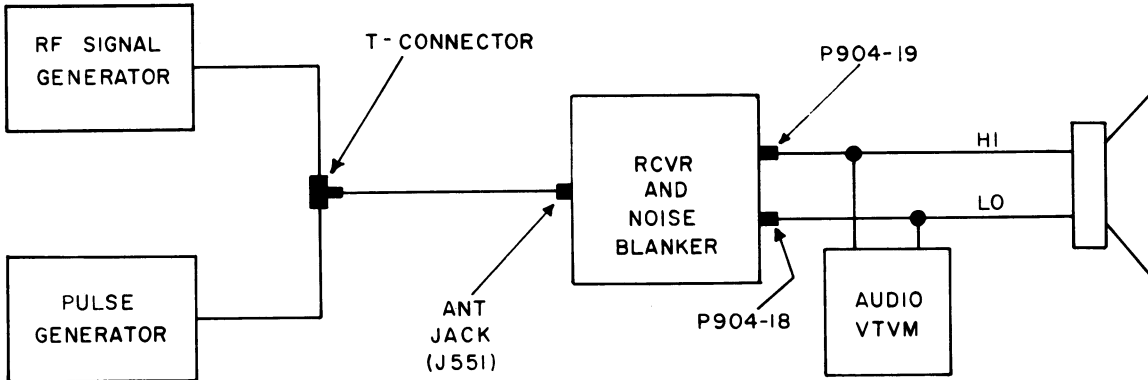

Figure 1 - Equipment Connection Diagram
- Connect Pulse Generator and RF Signal Generator to DFE antenna jack (J551) through a T-Connector, and connect AC VTVM to audio output of the Receiver Channel (Speaker LO, P904-18, Speaker HI, P904-19) as shown in Figure 1.